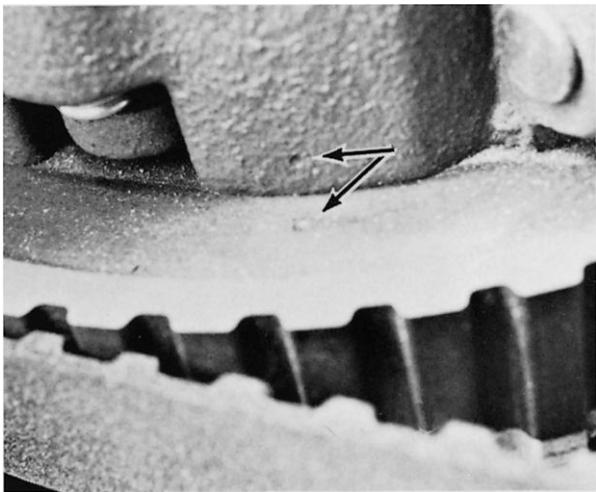

**Fig. 9-2**
- (1) With the motor not running, move the clutch lever to the "RUN" position. (Engage the clutch.)
- (2) Disconnect the clevis by removing the clevis pin (1, Fig. 9-2).
(3) Remove the four bolts (2, Fig. 9-2) that hold the clutch support bracket.